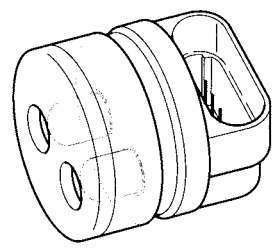

Figure 117. ISC Actuator Test Lamp (HD-41199-3)
- Disconnect ISC Actuator and Connect Test Lamp (HD-41199-3) to ISC Connector [87B]. See Figure 117.